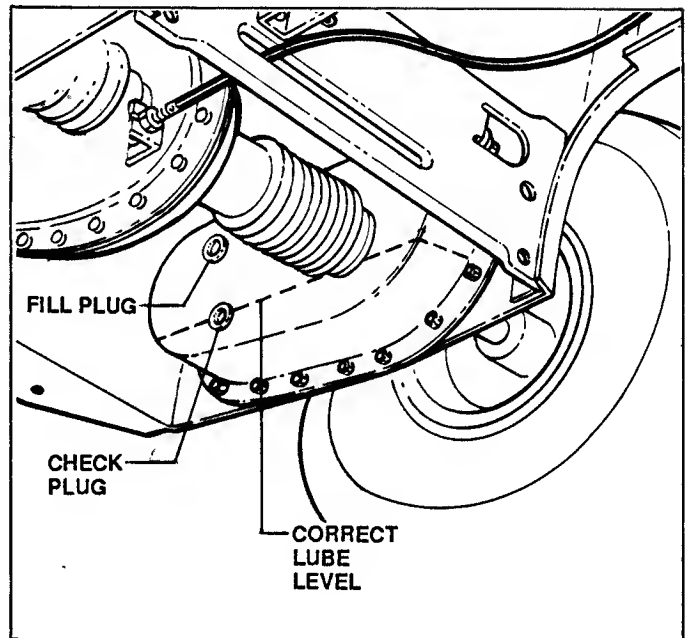

FIGURE 16
- **CHECK GREASE LEVEL** by removing CHECK PLUG on inside of unit shown in Figure 16 to check level of oil. Add **SNAPPER "0"** grease as needed thru upper fill hole to bring the level up to the lower edge of the CHECK PLUG hole. Reinstall **NEW** plugs after servicing.
- **CHAIN CASE:** Remove plug and check. If dry, add one ounce of **SNAPPER "0"** grease—do not overfill. Total capacity must not exceed 2 ounces. See Figure 16.